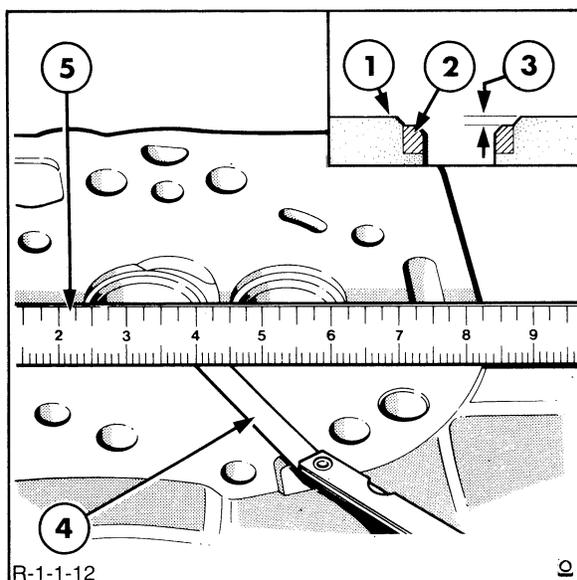

FIGURE 1-11
3. Use a straightedge and feeler gauges to check the flatness of the cylinder head in all directions, Figure 1-11. It should be flat within 0.003" (0.08 mm) in any 6" measurement and flat within 0.006" (0.15 mm) in any total measurement span.
NOTE: If the cylinder head exceeds the flatness specification, it may be machined providing the depth from the lower face of the valve insert to the cylinder head face is not less than 0.064" (1.63 mm), see the inset of Figure 1-11.